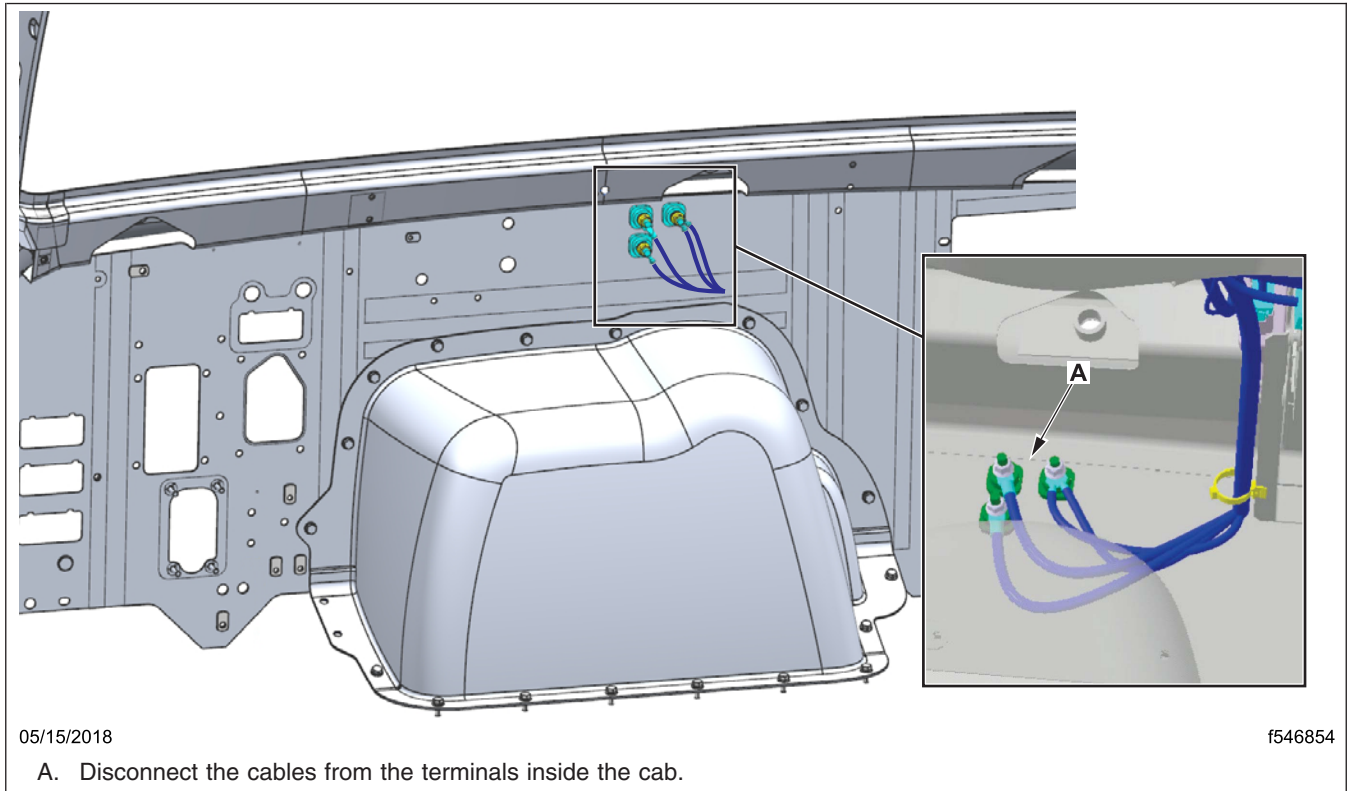

Fig. 5, Location of Front-Wall Power Terminals (inside the cab)
5. Disconnect the cables from the terminals inside the cab. See Fig. 5